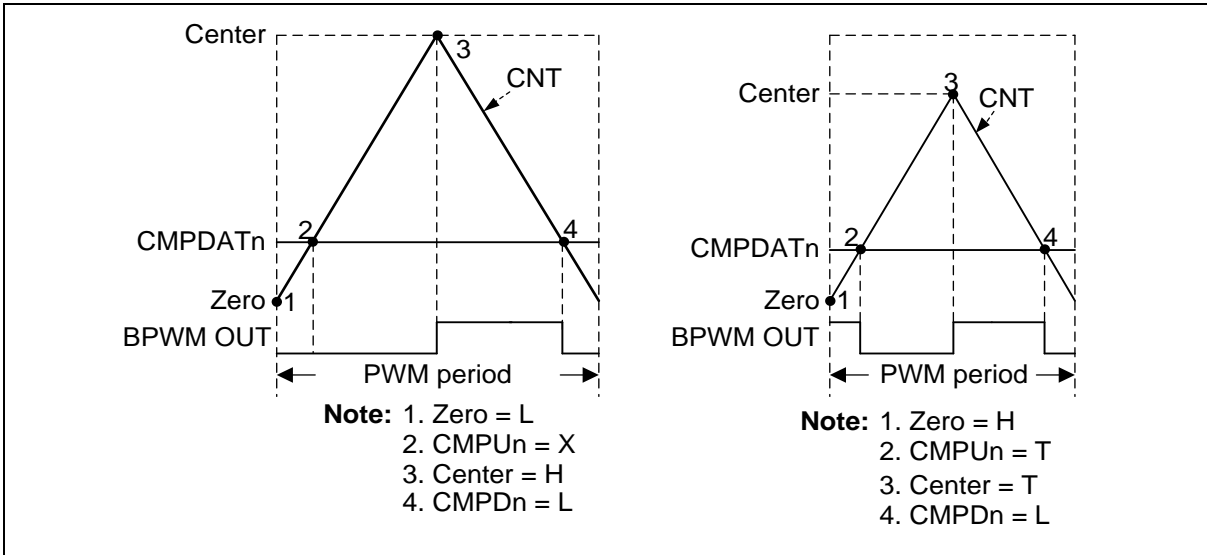

Figure 6.15-14 BPWM Pulse Generation (Left: Asymmetric Pulse, Right: Variety Pulse)
Each event point can decide BPWM waveform to do nothing (X), set Low (L), set High (H) or toggle (T) by setting BPWM\_WGCTL0 and BPWM\_WGCTL1 registers. Using these points can easily generate asymmetric BPWM pulse or variant waveform as shown in Figure 6.15-14. In the figure, there is a comparator n to generate BPWM pulse, where n denotes channel number 0 to 5. CMPU denotes CNT is equal to CMPDAT when counting up, and CMPD denotes CNT is equal to CMPDAT when counting down.